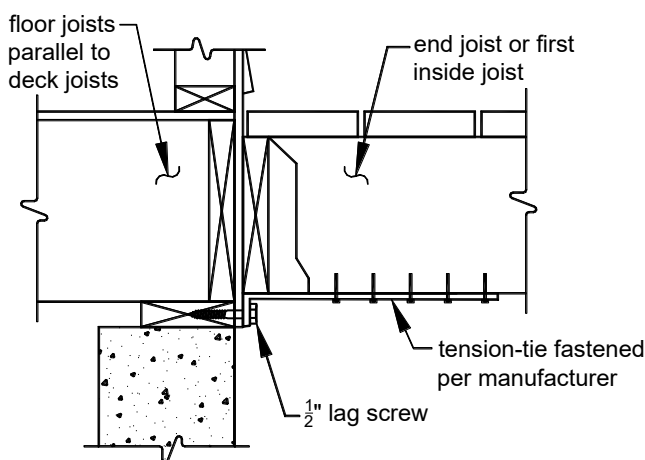

FIGURE 21: TENSION-TIE CONNECTION
- This method is permitted only where the deck joists and floor joists are parallel as shown in FIGURE 21.
- Tension-ties shall be attached to the underside of the joists per the manufacturer's instructions. Tension-ties shall be attached to the exterior wall with lag screws as shown in FIGURE 21. Lag screws shall penetrate a minimum of 3 inches into the sill plate or top plate of a wood framed wall.